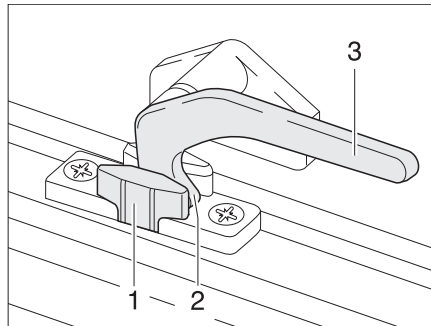

Fig. 10 Catch lever in the "continuous ventilation" position
- "Continuous ventilation" (Fig. 10)
- Turn the catch lever (Fig. 10,3) a quarter turn towards the centre of the window.
- Return the catch lever to its initial position. The locking catch (Fig. 10,2) has to be moved into the recess of window catch (Fig. 10,1).